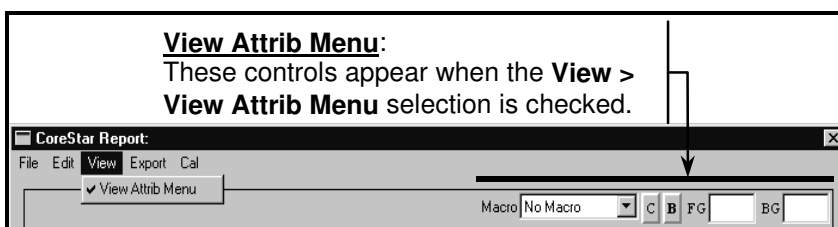

Figure 3-70. View Menu on Report Editor Dialog
Figure 3-70 shows the contents of the **REPORT > View** menu, which contains only (1) selection, discussed below.
- ❑ **REPORT > View > View Attrib Menu:** Selecting **View Attrib Menu** from the **View** menu toggles the text enhancement controls shown in Figure 3-70 on and off. If the **View Attrib Menu** selection is checked (as shown), then the controls appear (as shown); otherwise, the menu item is unchecked and the controls are not displayed. These controls work the same as those previously discussed in the *macro* section (*see Macros > Enhancement Tools*). These enhancements can only be applied to headers, footers, and other message-type entries in the report. Tube report entries cannot be enhanced. Furthermore, the **Macro** drop-down box has no effect within the **Report Editor** dialog, but rather is used in the **Macro** dialog discussed earlier.